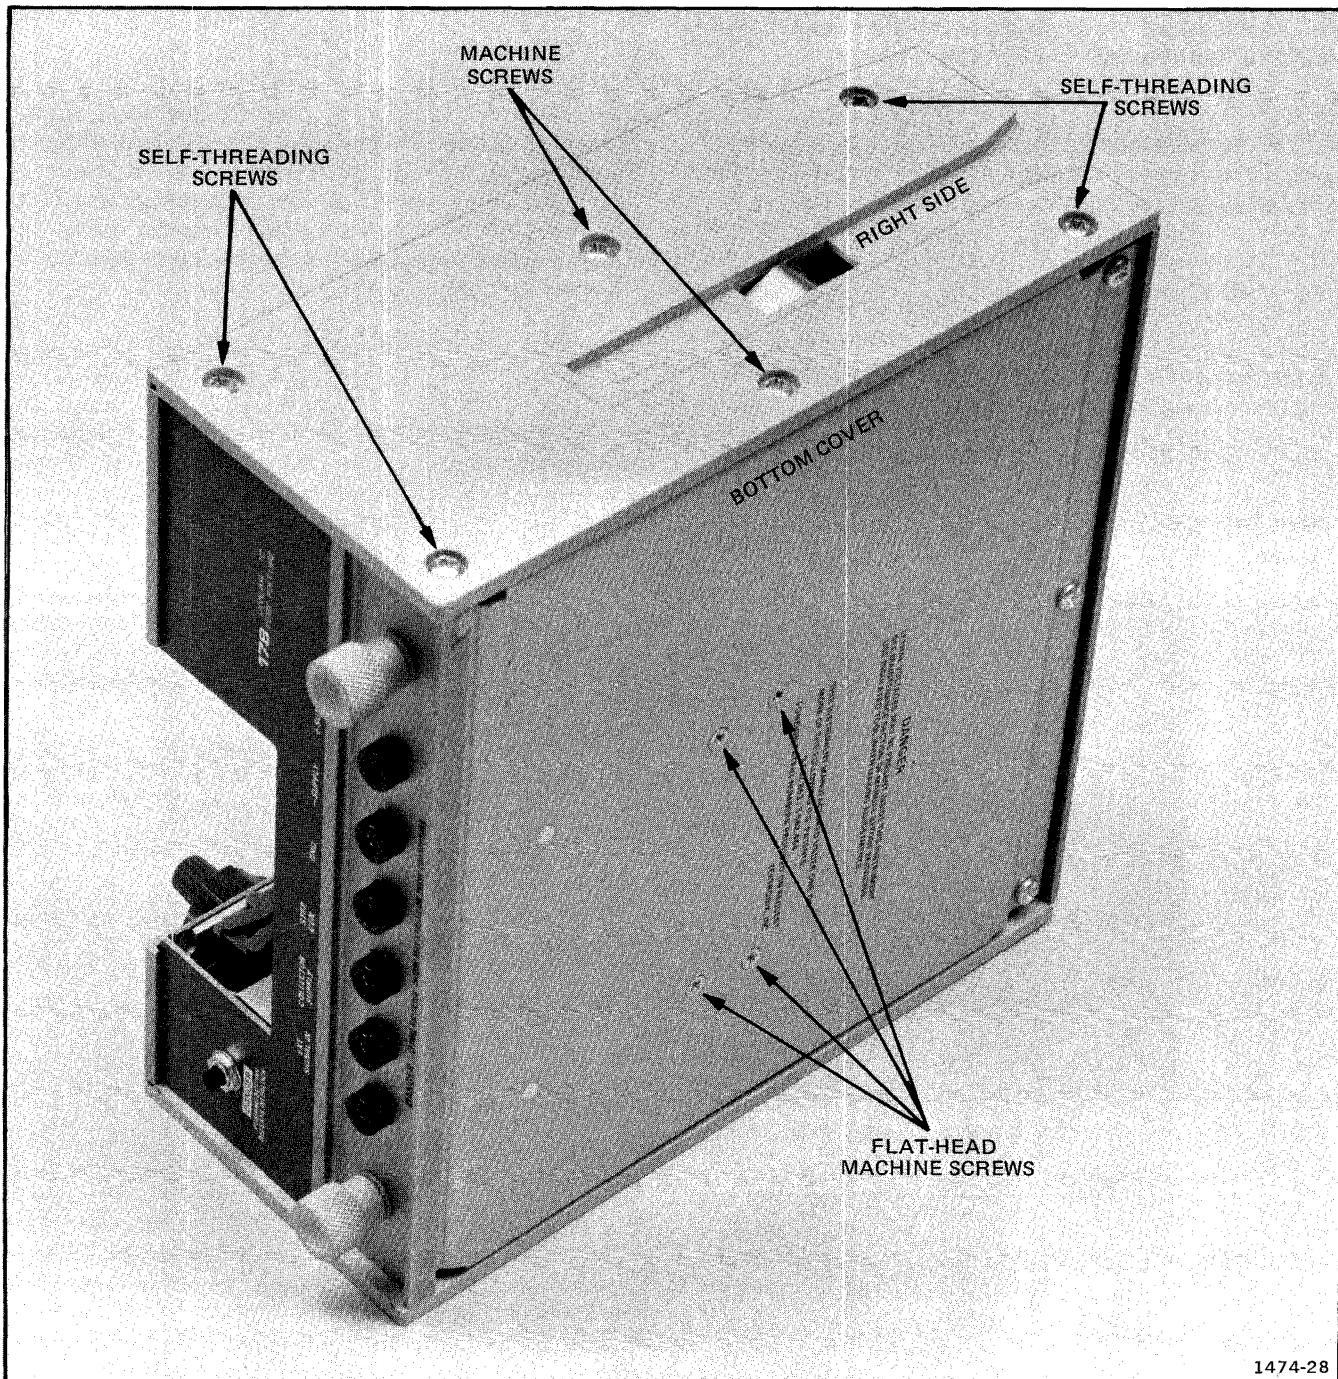

Fig. 4-2. Right-side and bottom panel of the 178.
- a. Remove the three pan-head machine screws from the bottom panel (see Fig. 4-2).